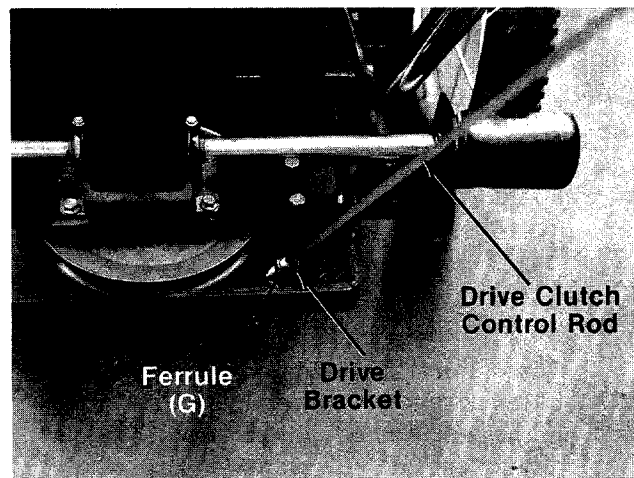

FIGURE 6.
2. Place ferrule (G) in position on drive bracket. See figure 6. Thread clutch control rod through ferrule until approximately $1-3/8$ " of threads show below ferrule. See figure 6.